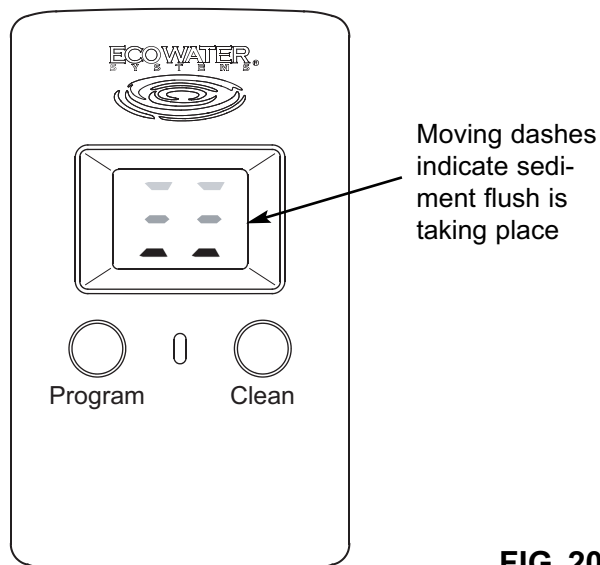

FIG. 20
1. Press the **CLEAN** button and hold it for at least 2 seconds. When the 2-digit display changes to show moving dashes (See Figure 20), release the **CLEAN** button.